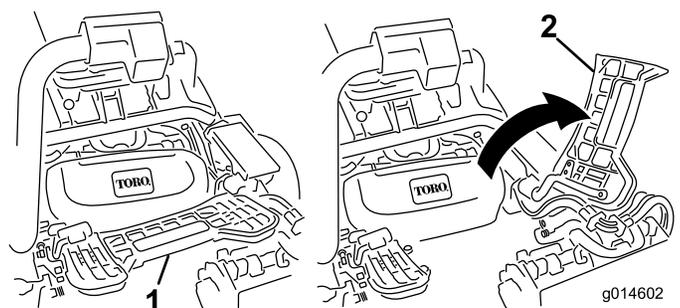

Figure 11
7. If installing the center cutting unit, lift up on the foot rest and swing it up, allowing access to the center cutting unit position (Figure 11).